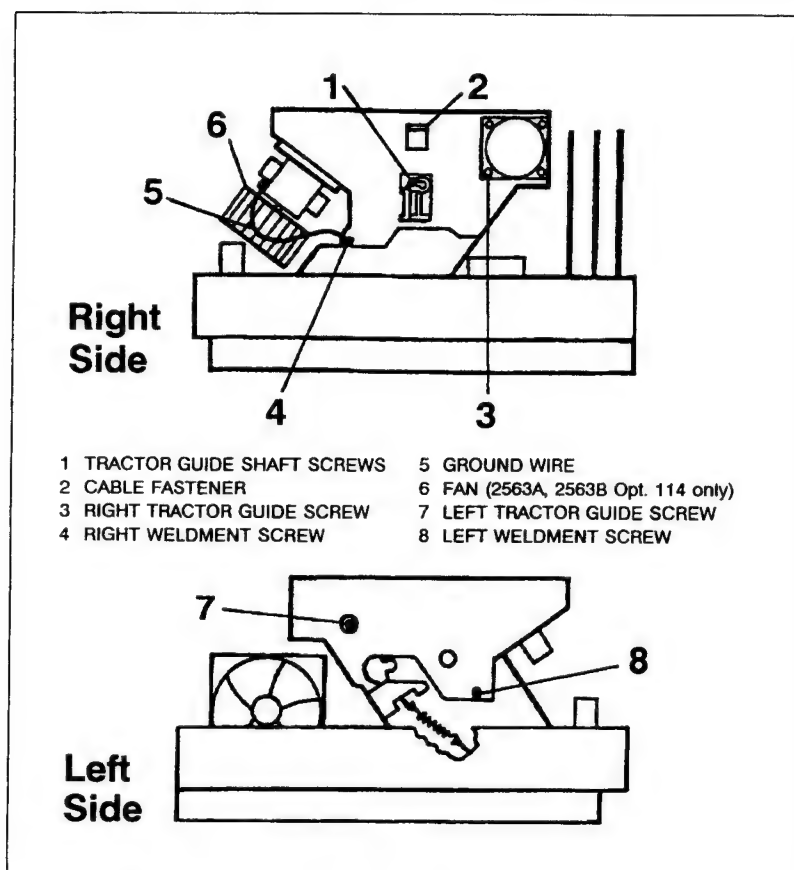

Figure 6-5. Printer Weldment / Side Views
- c. Remove the two pozidrive screws, one at each end of the printer weldment (see Figure 6-5, item 3 & 4 ).
- d. Remove the hammer driver ribbon cable stress relief holder from the right side of the printer (see Figure 6-5, item 2).
- e. From the left of the printer, remove the one 3 mm hex head (or pozidrive) screw securing the tractor guide shaft to the side of the weldment (see Figure 6-5, item 7).